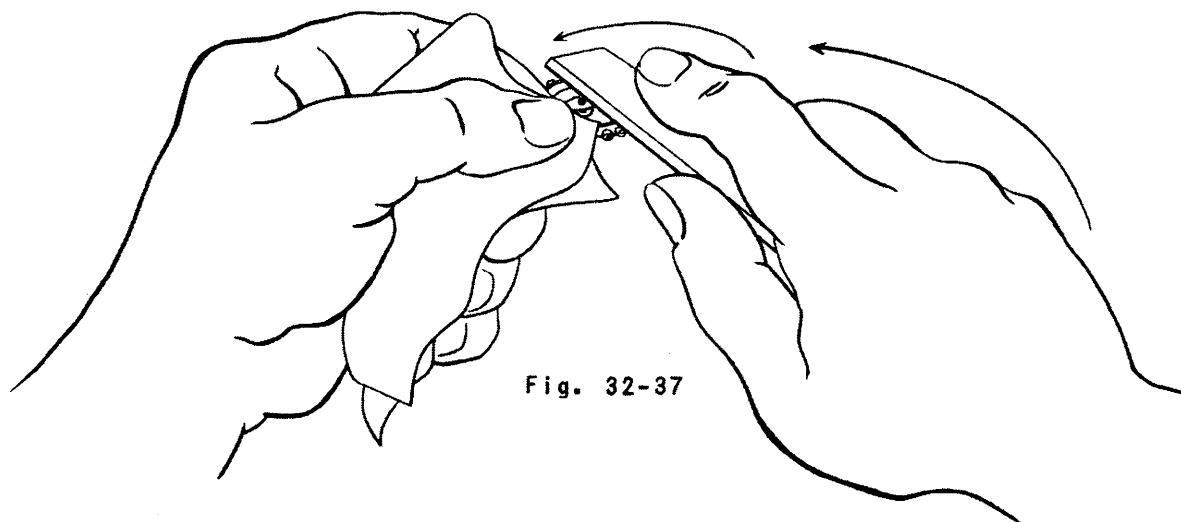

Fig. 32-37
43. Clean and dry all parts of watch. (Lesson #10) Repolish top of balance rim using small chamois buff and rouge. After the balance has been thoroughly cleaned and dried, polish the upper side of rim with a circular motion as in figure 32-37. The buff can be either chamois or leather and the wheel should be held between the fingers with watch paper. Do not use any pressure. Remove traces of rouge with soft dry brush.